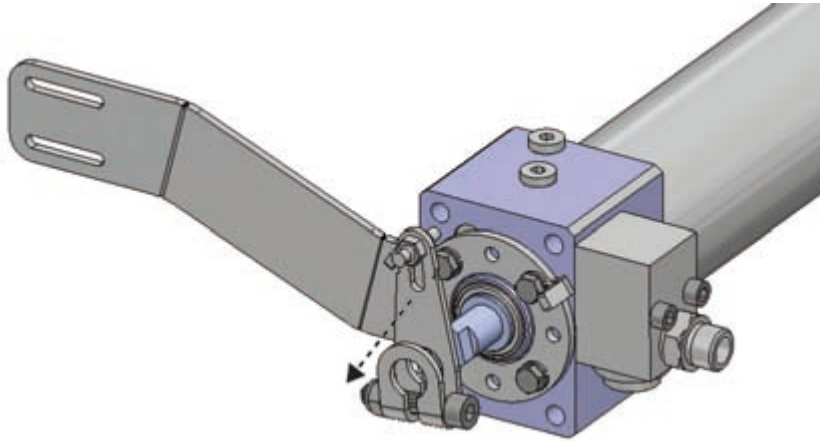

Figure 31. Removing the operating lever
2. Loosen the operating lever's fastening screw and pull the lever off the shaft (figure 31).